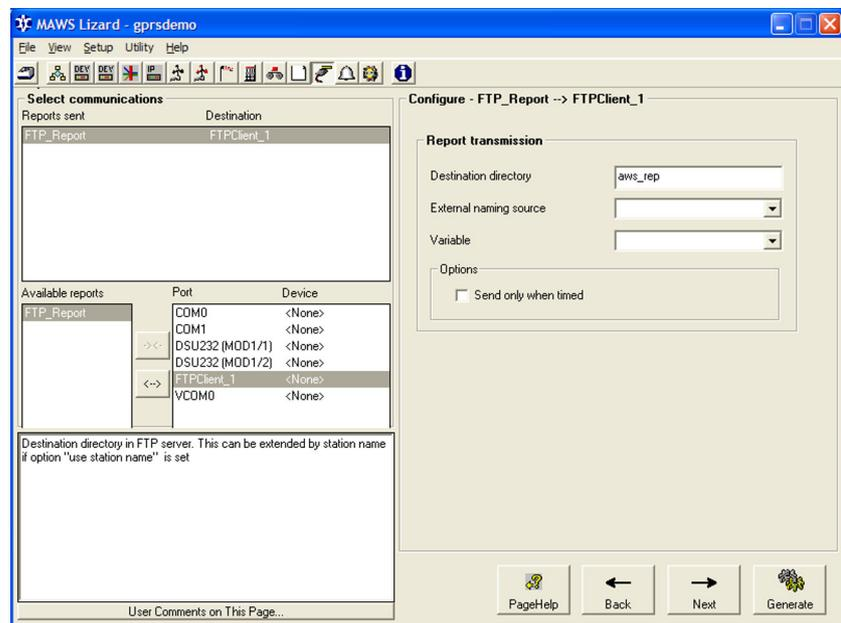

Figure 147 Configuring Report Transmission for FTP Client
9. In the **Communications** view, shown in Figure 147 on page 307, link the report to the previously created FTP client for transmission, and configure the transmission parameters.